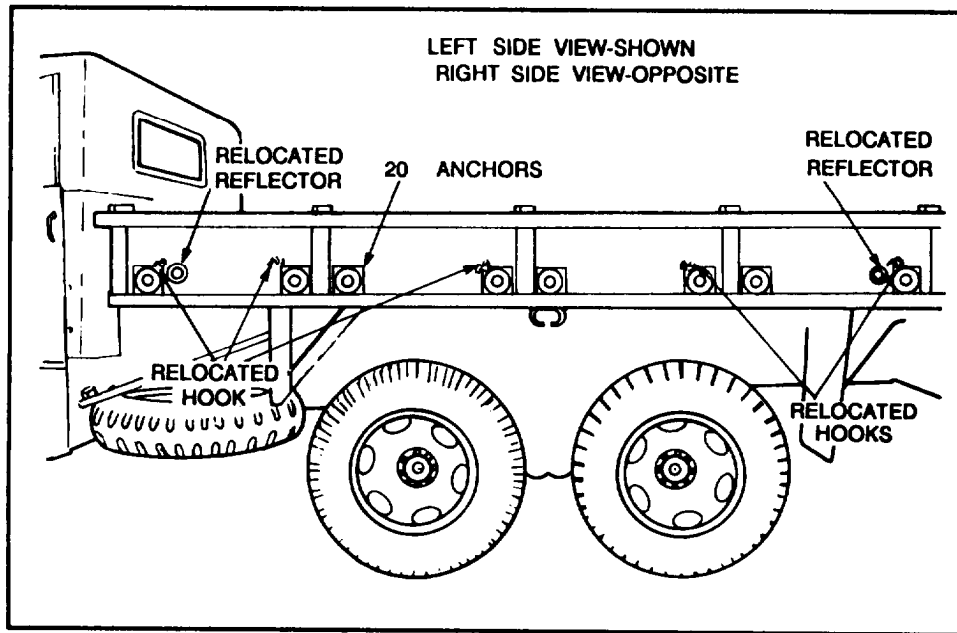

Figure 7. Location of anchors, hooks and reflectors on left side
(1) Remove and retain five paulin lashing hooks, two reflectors, four screws and four locknuts from each side panel of cargo body. Discard 20 rivets.
(2) Using template provided in kit, scribe location of eight anchors on left side, eight on right side, two on front, and two on rear panels of body, as shown in figures 7, 8, and 9.